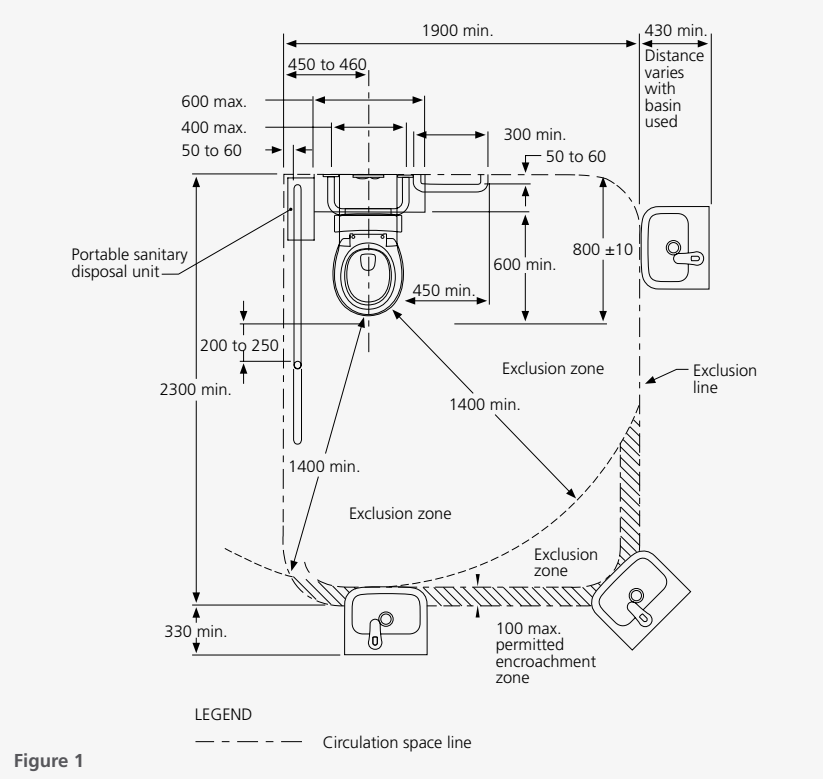

Figure 1
For each toilet pan the required unobstructed circulation space, from the floor to a height of 2000mm, is shown in Figure 1. Except for the following which are allowed to intrude into the circulation space:
**Basin** limited to 100mm intrusion as shown in Figure 1.
**Portable sanitary disposal unit** as shown in Figure 1.